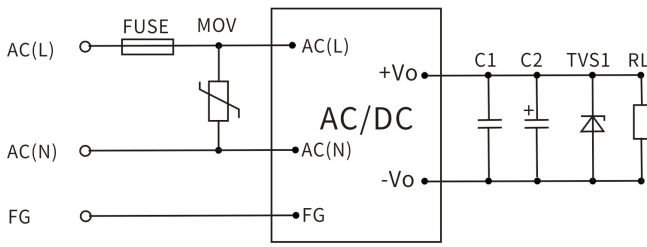
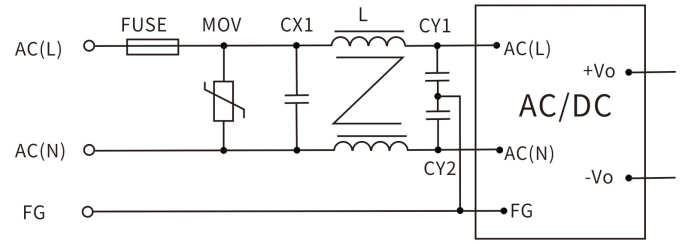

图1
图4
- For general application requirements, customers should use the recommended circuits shown in Figures 1, 2, and 3. If higher EMC requirements are needed, please use the recommended circuit shown in Figure 4.
- The specific recommended values for Figure 4 are as follows: